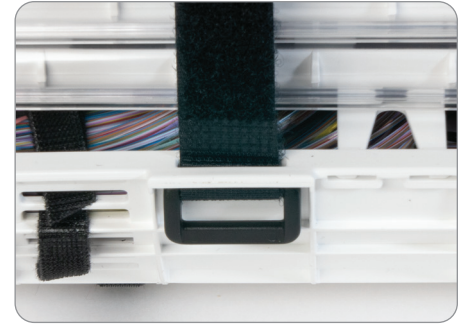

Figure 47
5. Pull the three Velcro straps through the horizontal strap slots soft side up. (Figure 47)